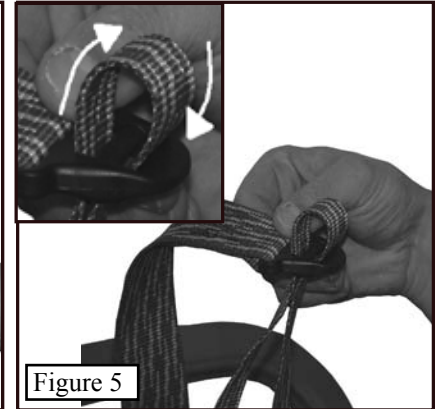
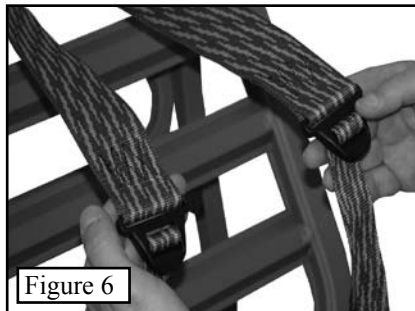

Figure 5
Figure 6
**Step 4.** Thread the loose end of each 1" strap through the buckle on the 2" strap as shown in *Figure 5*. The completed assembly should look like *Figure 6*.